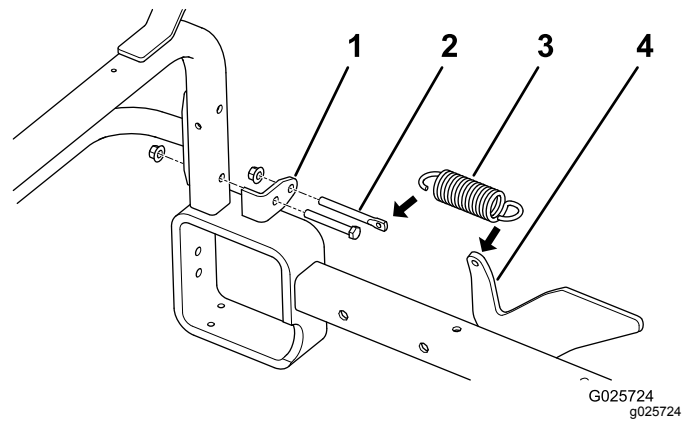

Figure 26
2. Remove the **lower** nut and bolt securing each hitch tube mounting bracket to the vertical frame tubes (Figure 26).
Note: Position the spring brackets as shown in Figure 26.